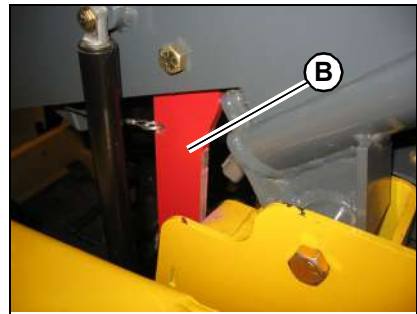

Figure 89 – ROPS/FOPS Lock Mechanism
3. Tilt the ROPS/FOPS up and back, moving the control handles out of the way. Tilt the ROPS/FOPS back slowly, until locking mechanism (B, Figure 89) locks the ROPS/FOPS in the raised position.